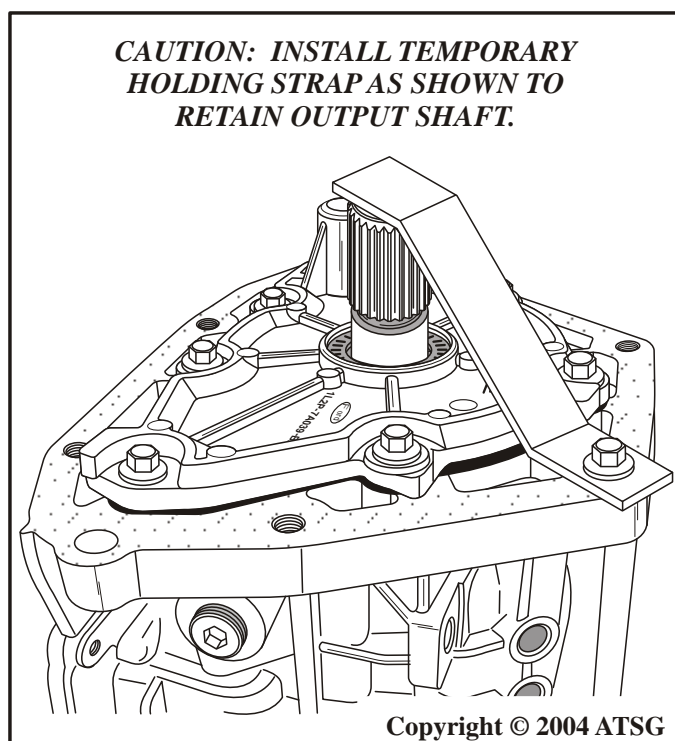

Figure 139
7. Install the temporary holding strap, as shown in Figure 139, to retain the output shaft in the transmission until snap ring is installed.